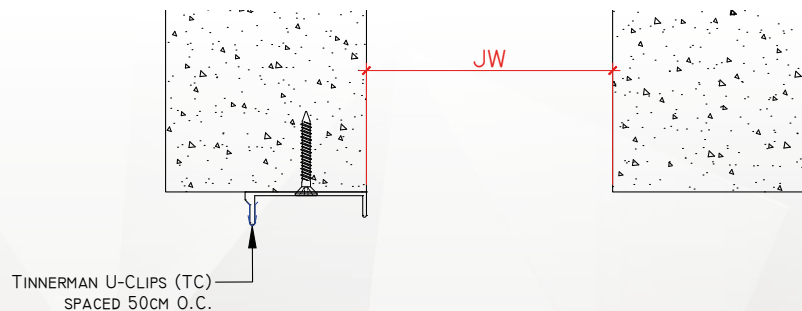

Figure 2.
10. If the tinnerman clips were not installed on the base member's tab at the factory, install the TC's at this time (see Figure 2). The TC's are spaced at 50 cm. O.C.